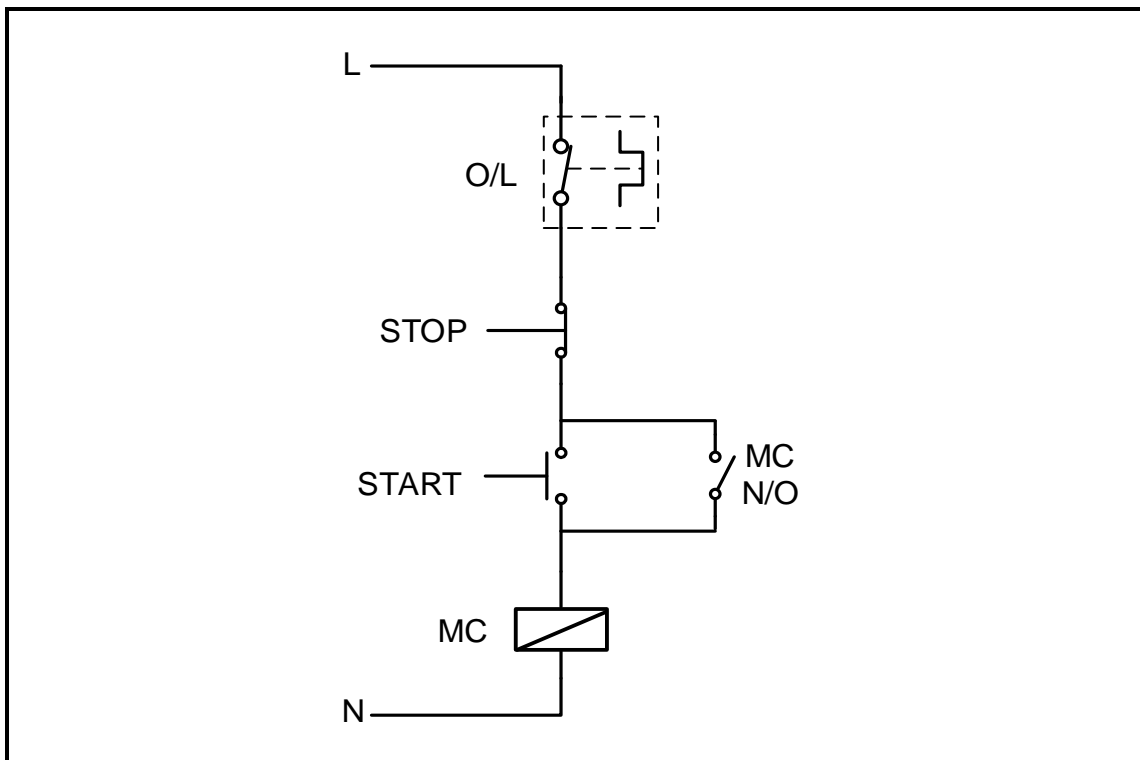

FIGURE 7.5: CONTROL CIRCUIT OF A DIRECT-ON-LINE STARTER (6)
- 7.5 FIGURE 7.5 below shows the control circuit of a direct-on-line (DOL) starter. Design a PLC ladder logic program that will execute the same function. (6)